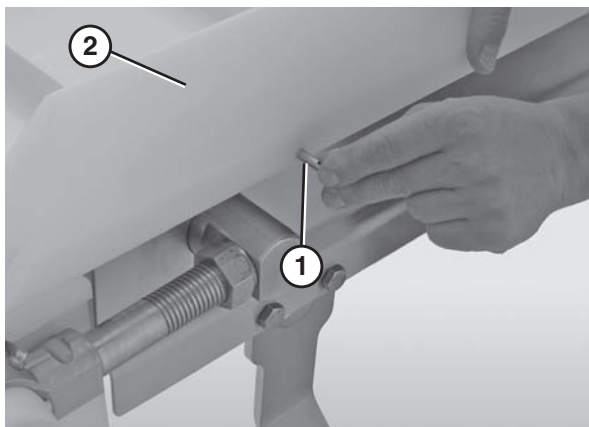

Figure 22
3. Insert the pull pins (**Figure 22, item 1**) into the holes in the guide (**Figure 22, item 2**).